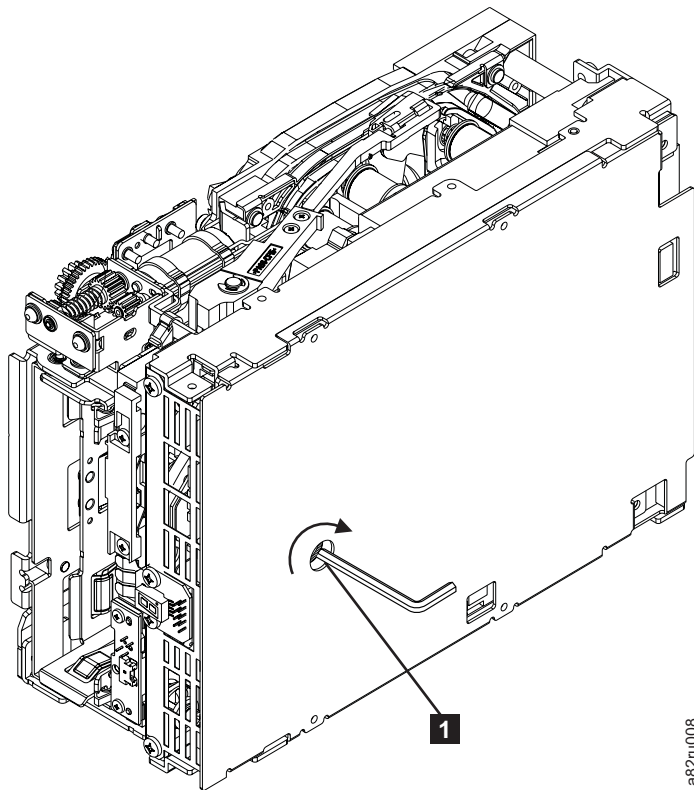

Figure 15. Using hex wrench to rewind tape into cartridge
- \_\_\_ Step 3. From the bottom of the drive, locate the access hole ( **1** in Figure 15).
**Note:** Be sure to keep tension on the tape as the LBA is drawn into the cartridge by using a hex wrench as shown in Figure 15 on page 59.
- \_\_\_ Step 2. From the bottom of the drive, locate the access hole ( **1** in Figure 15 on page 59).